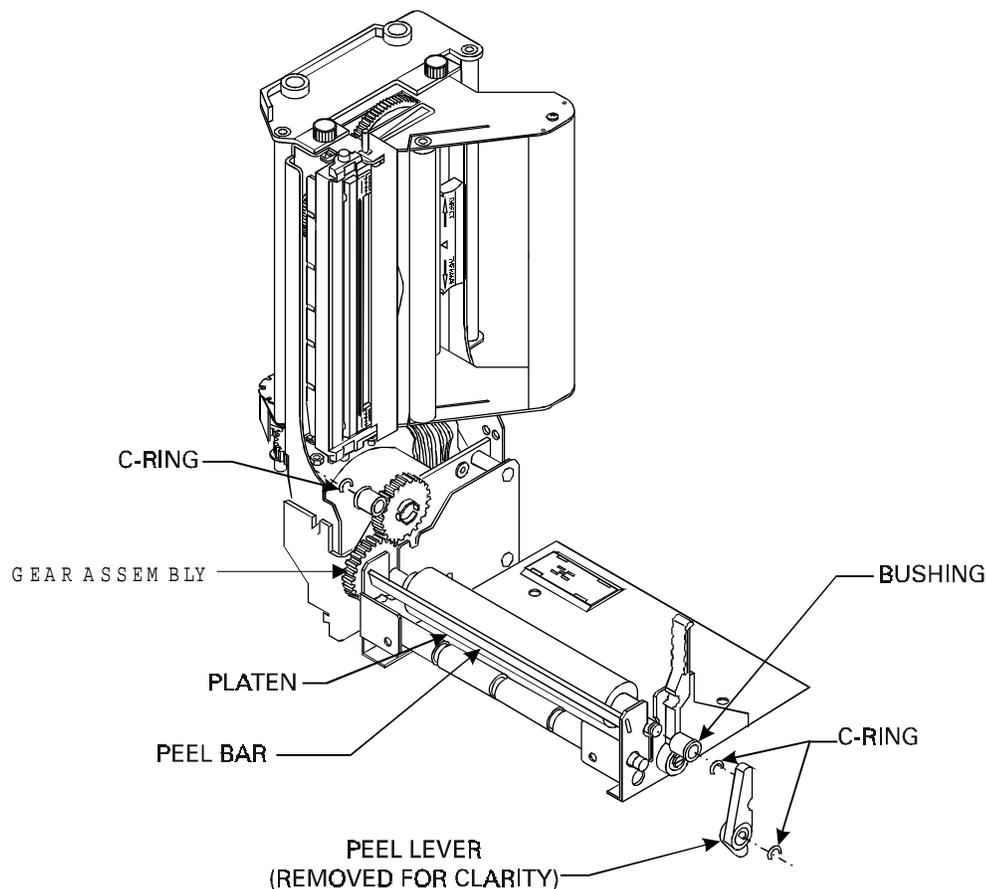

Figure 12. Installation and Removal of the Platen Roller
Remove the old Platen Roller (see Figure 12)
6. Remove the C-Rings (see Figure 12) and while pulling slightly forward on the Peel-Off Release lever, remove the outside bushing from the Platen Roller Shaft. Slide the Platen Roller shaft out from the gear end and remove the roller.
1. While holding the Gear Assembly in place, slide the Platen Roller shaft into the gear assembly. While pulling slightly forward on the Peel-Off Release lever, replace the outside bushing and the other shaft end and secure in place with the C-Rings (see Figure 12).